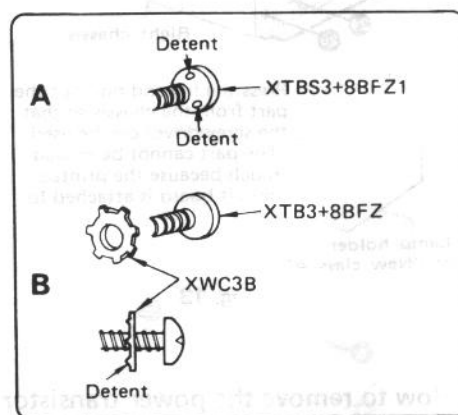

Fig. 20
Note: Setscrews ⑮ to ⑳ are screws with detents (Part No.: XTBS3+8BFZ1) as shown in Fig. 20-A in order to make the contact of electric circuit perfect.
Take care not to mix up these screws with other screws. When substituting, use a 3 x 8mm tapping screw (Part No.: XTB3+8BFZ) and toothed lock washer (Part No.: XWC3B) as shown in Fig. 20-B. The teeth of the lock washer should be positioned on the chassis side.